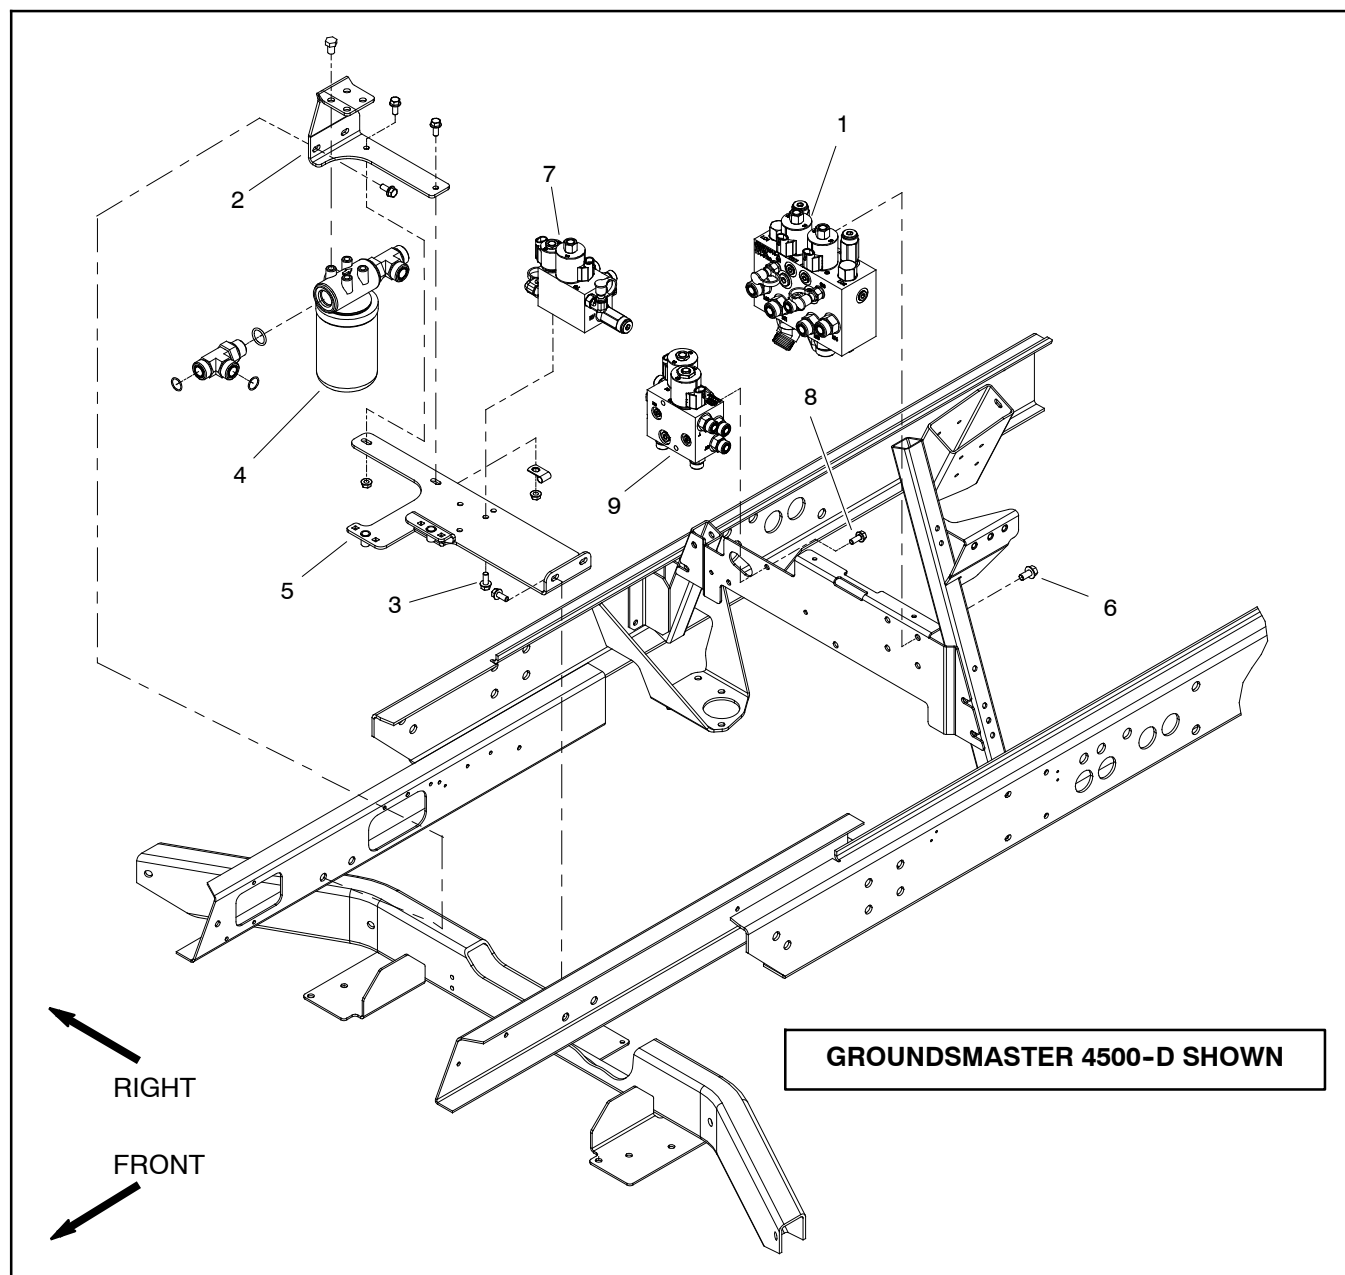

Figure 90
**NOTE:** The deck control manifolds used on Groundsmaster 4500-D and 4700-D are different but they mount to the machine in the same location. The control manifolds used on the Groundsmaster 4500-D are shown in Figure 90.
## Removal (Fig. 90)
7. Remove hydraulic manifold from the frame using Figure 90 as guide.
## Installation (Fig. 90)
2. Install hydraulic manifold to the frame using Figure 90 as guide.